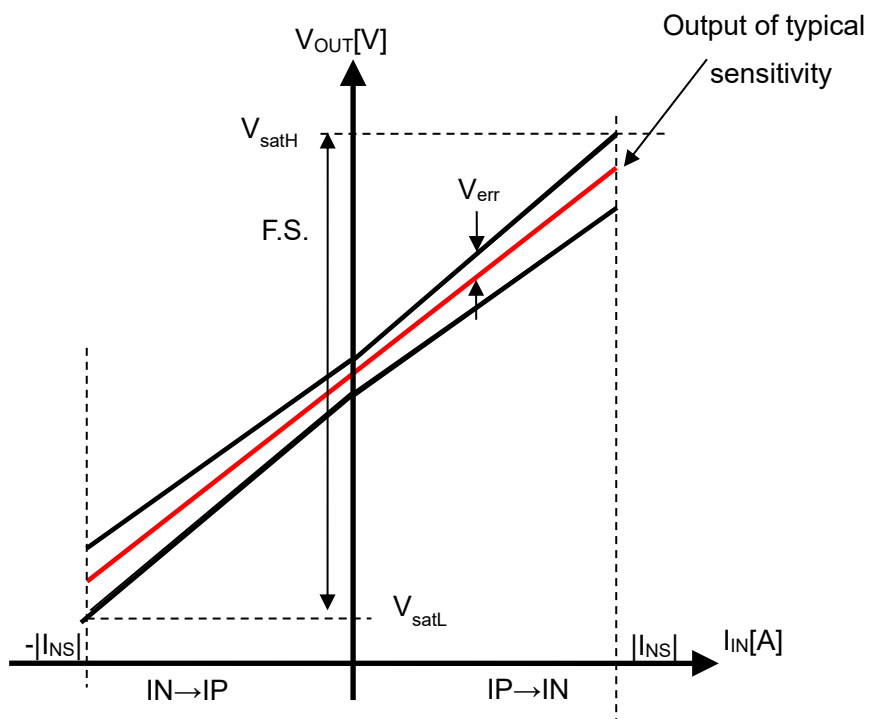

Figure 4. Total Accuracy of CZ-3AG7
10.2. Total Accuracy  $E_{total}$  [%F.S.] is defined as below (See Figure 4.)